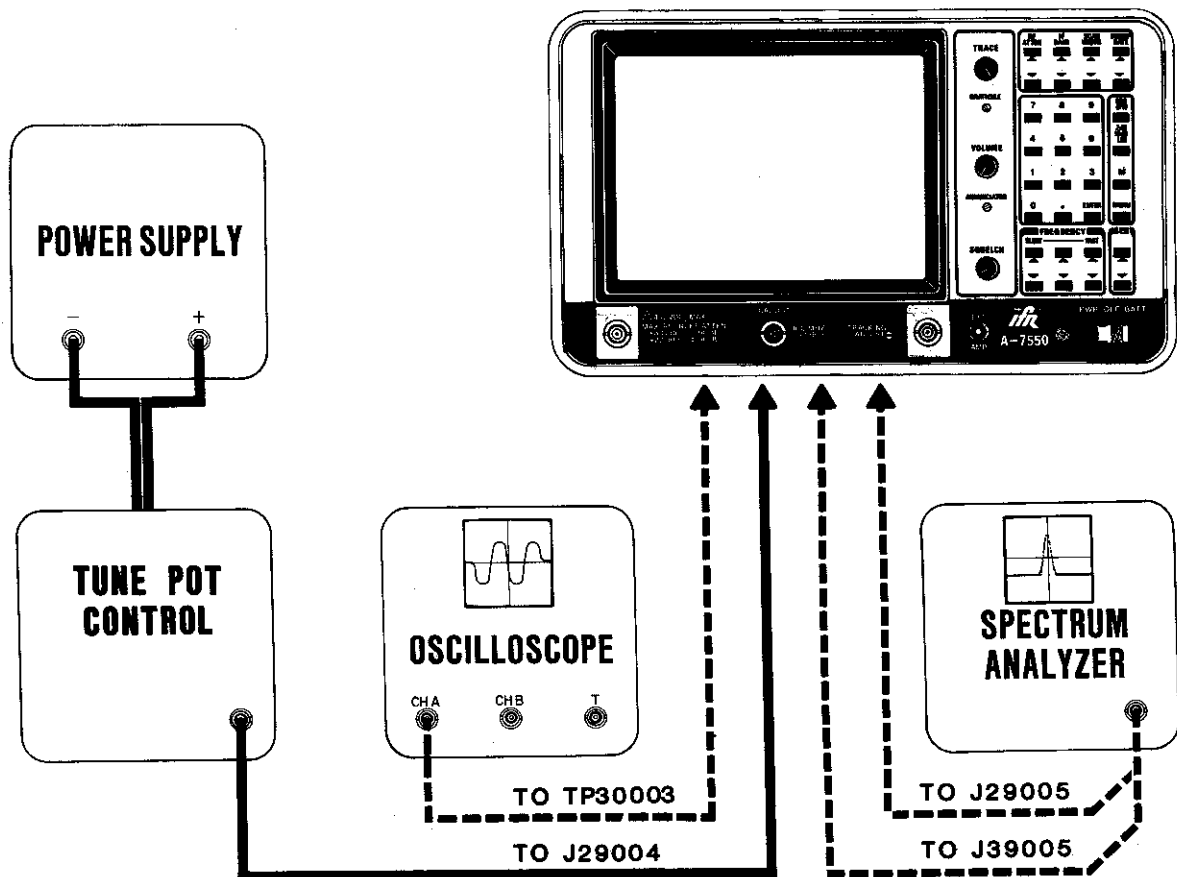

Figure 4-8 RF Control Calibration Test Setup
1. Connect test equipment (Figure 4-8) and AC power cord to A-7550. Place PWR/OFF/BATT Switch (2) to "PWR".